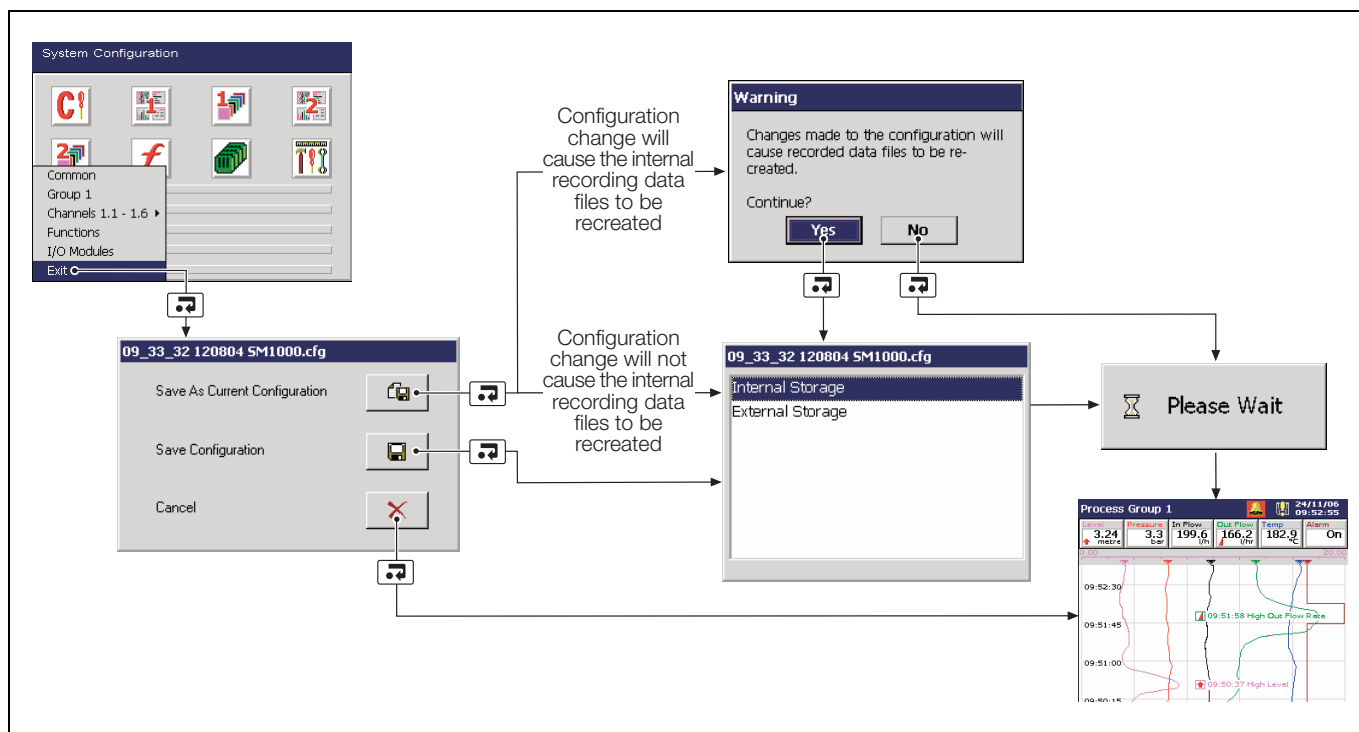

Fig. 4.6 Exiting Configuration Mode
- The appropriate data entry box is displayed automatically – see Fig. 4.6